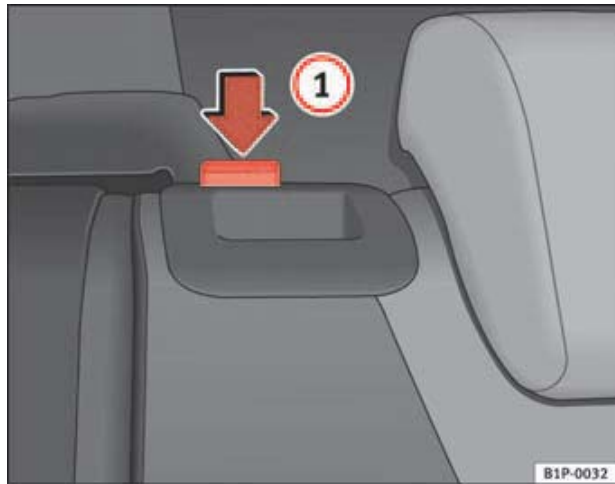

Fig. 93 Folding up the rear seat back
- Fold the backrest back and push the backrest firmly into the lock. The red marking should no longer be visible ⇒ fig. 93.